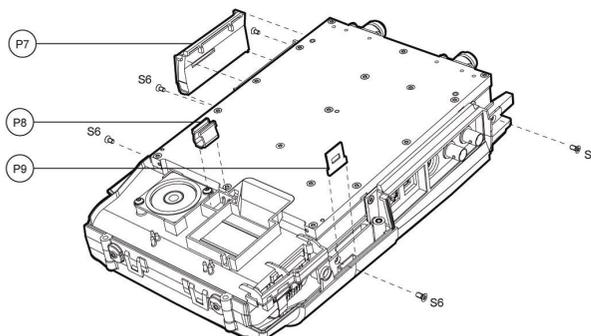

Figure 3-6: Replacing the Side Part Left, Side Part Right, Stand Up Lock Spring and Kensington Plate.
- ▶ Remove the five (5) screws S6 from the sides (see fig 3-6)